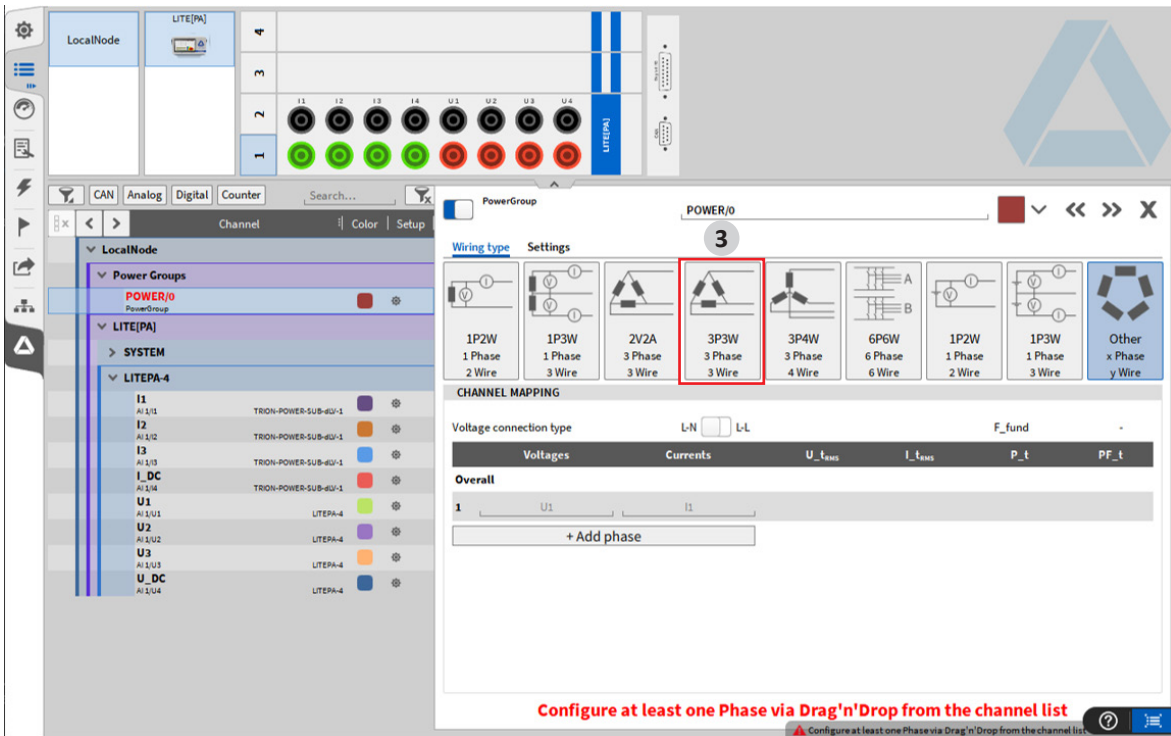

Fig. 18: Create a Power Group without channel pre-selection (2)
3. Choose the wiring type fitting your application, e.g. three phase, three wire, in line-line configuration, see Fig. 18.